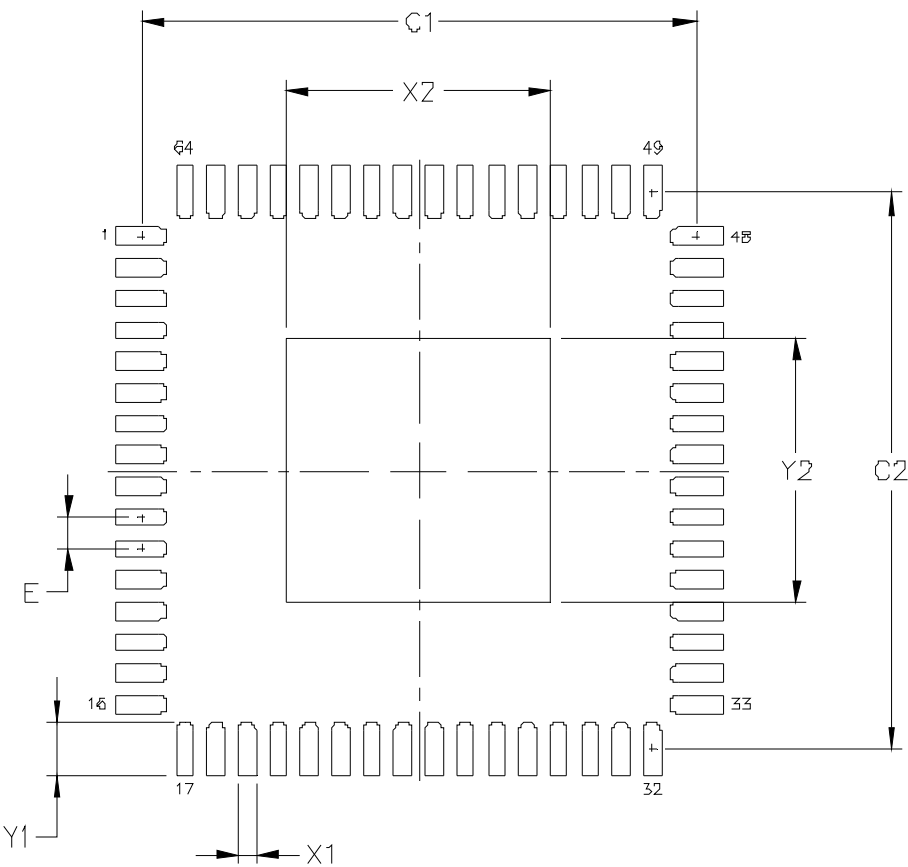

Figure 6.8. QFN-64 Landing Diagram
- Updated Figure 6.8, “TFBGA-80 Package Drawing,” on page 79.